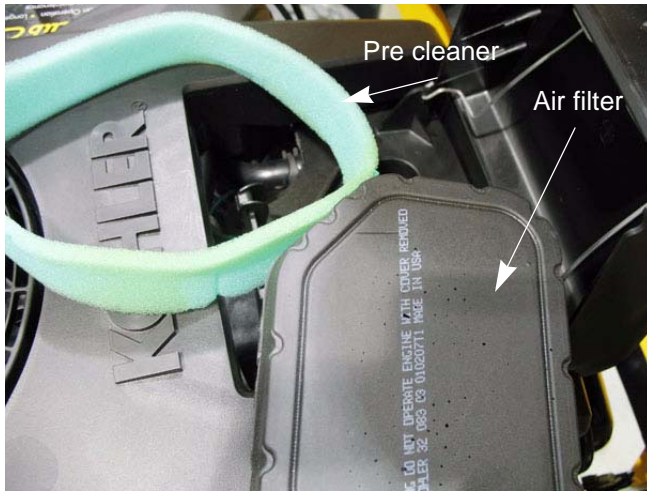

Figure 9.5
4. Slide the pre cleaner off of the air filter. See Figure 9.5.